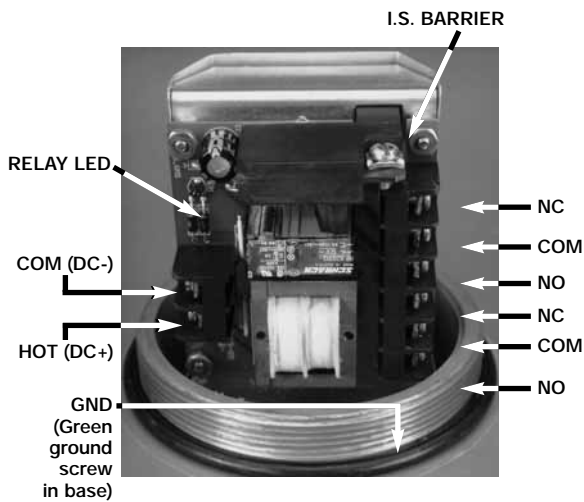

Figure 13
1. Connect power leads to applicable AC or DC terminals as marked. Refer to Figure 13.
2. a. Connect control circuit leads to relay terminals Refer to Figure 13. Make sure the load to be controlled is within the relay's rated capacity.